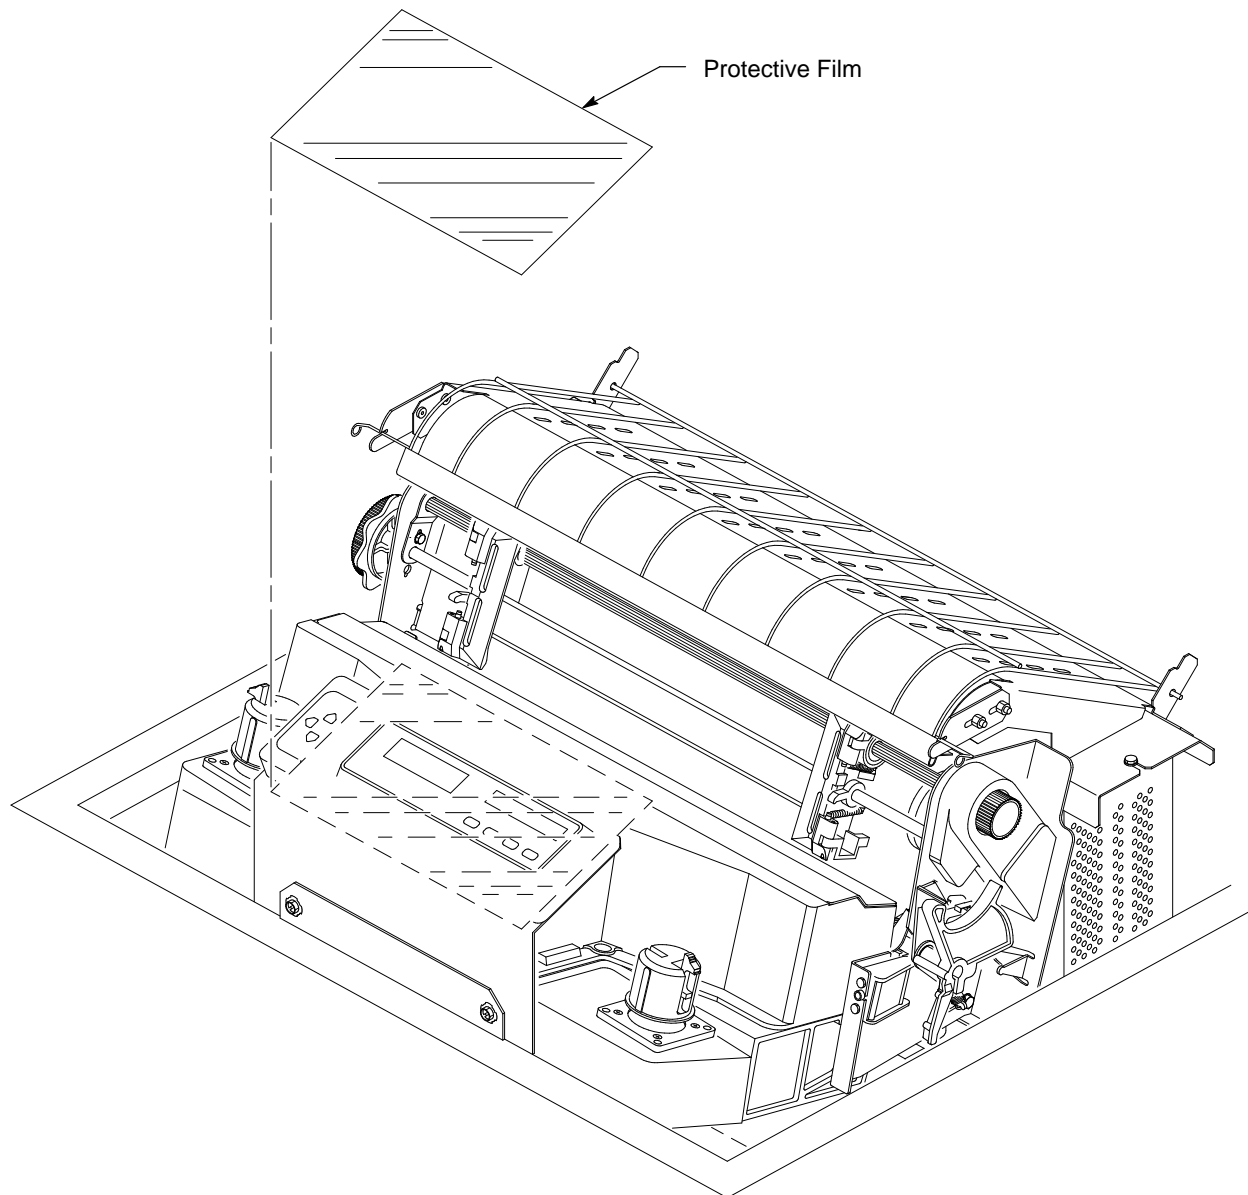

Figure 2-5. LG06: Protective Film
1. Carefully peel the protective film off the control panel. (See Figure 2-5.)